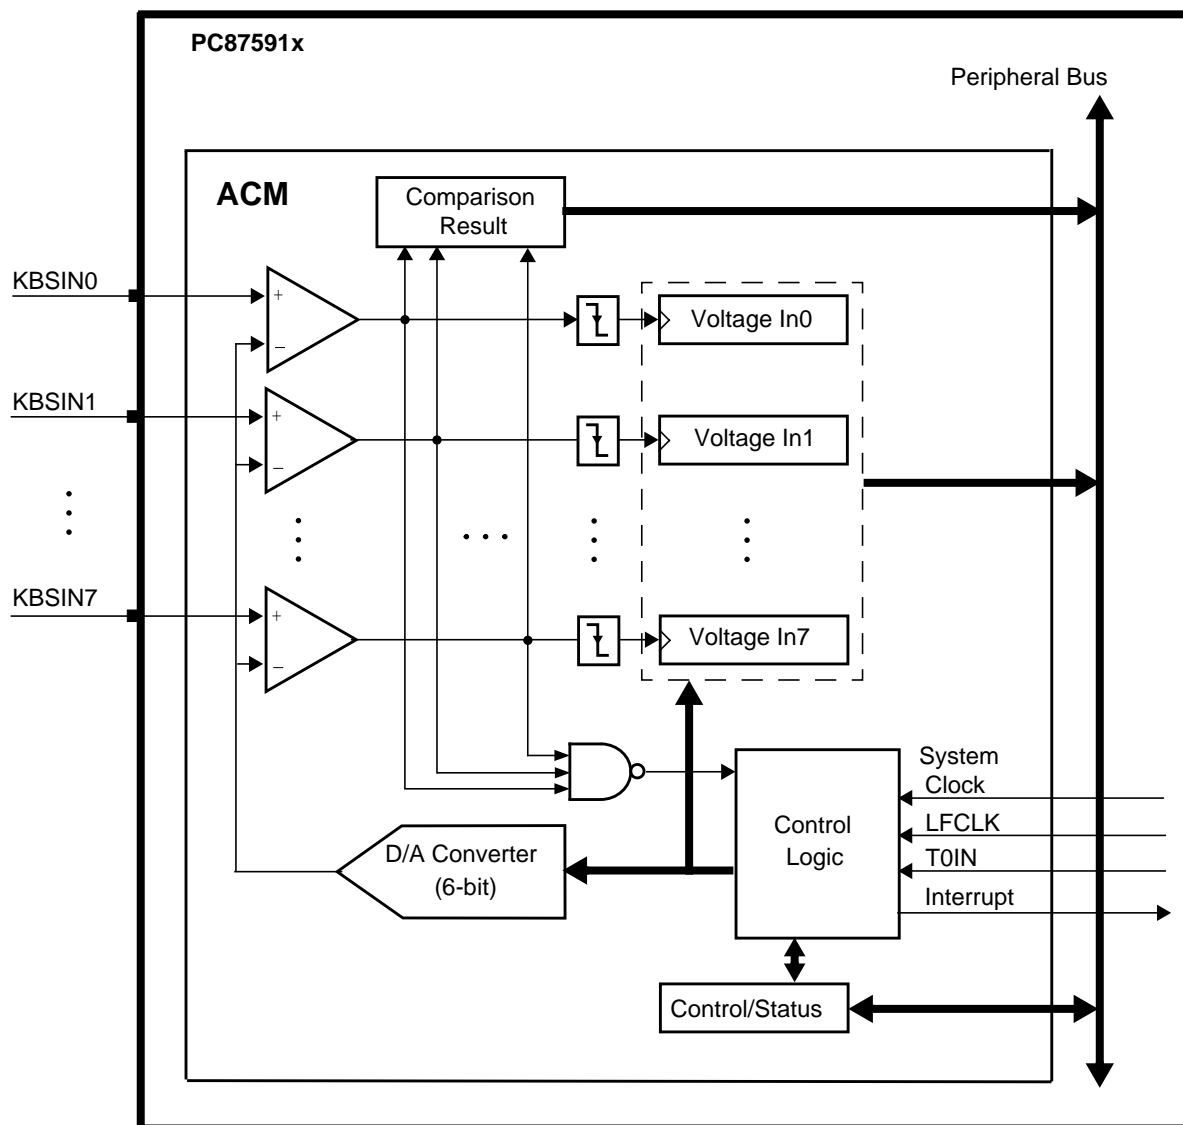

Figure 74. ACM Functional Diagram
Inputs. The ACM has eight analog inputs with a voltage ranging from 0V to V_{CC} (FS), as shown in Figure 74.